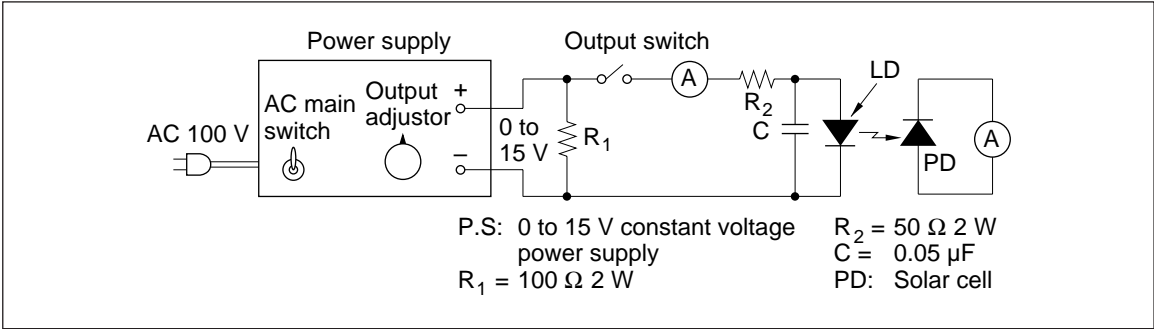

Figure 5-2 Simple Drive Circuit
- (iii) Before connecting a laser diode to the power supply in the ON-state as shown in figure 5-2, set the output level to the minimum. Also, before disconnecting a laser diode from the power supply, set the output voltage to the minimum. After disconnecting, turn off the main switch.